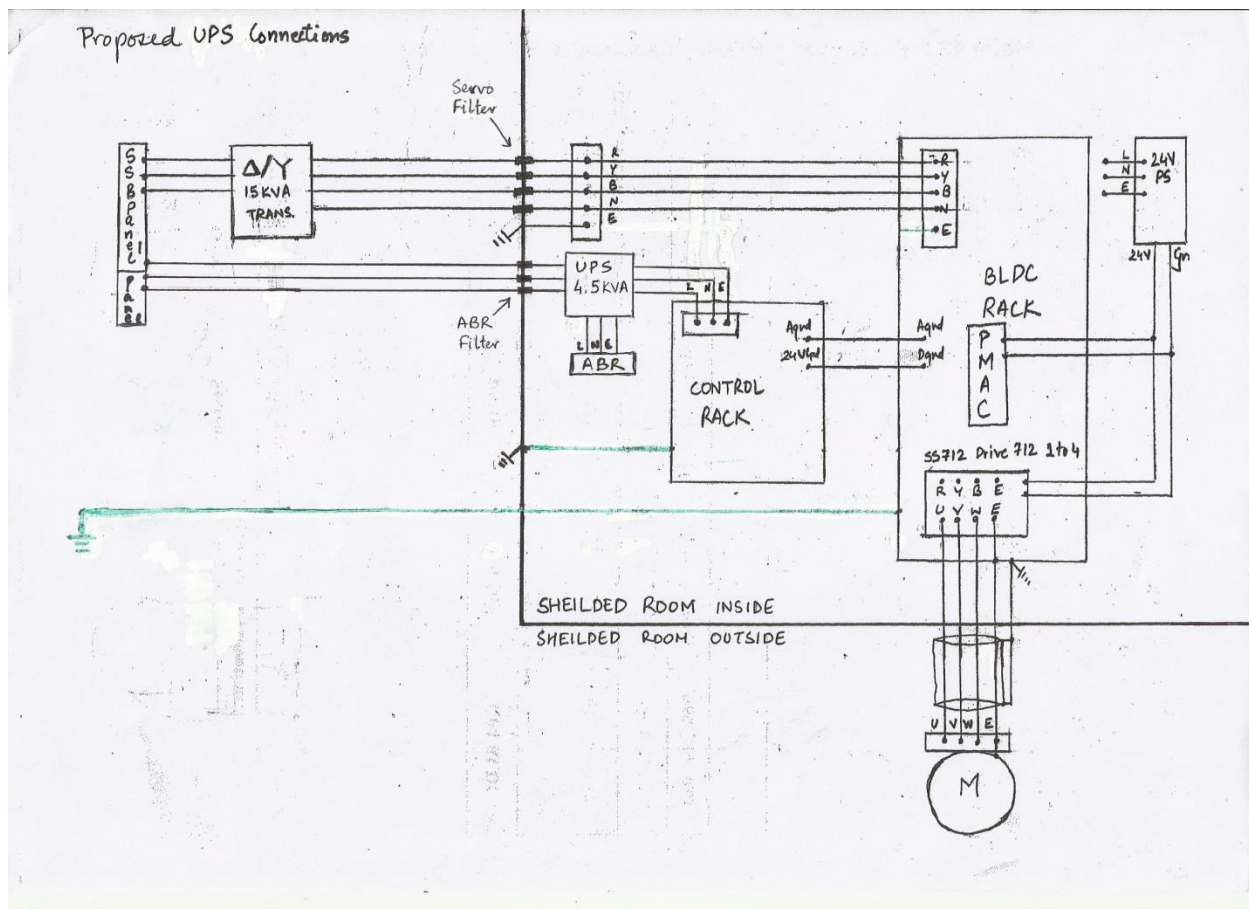

Figure30: Grounding details of BLDC system
Figure30 shown below gives details of grounding details after commissioning of new BLDC system
*Circuit details of Figure30 referred from [5]